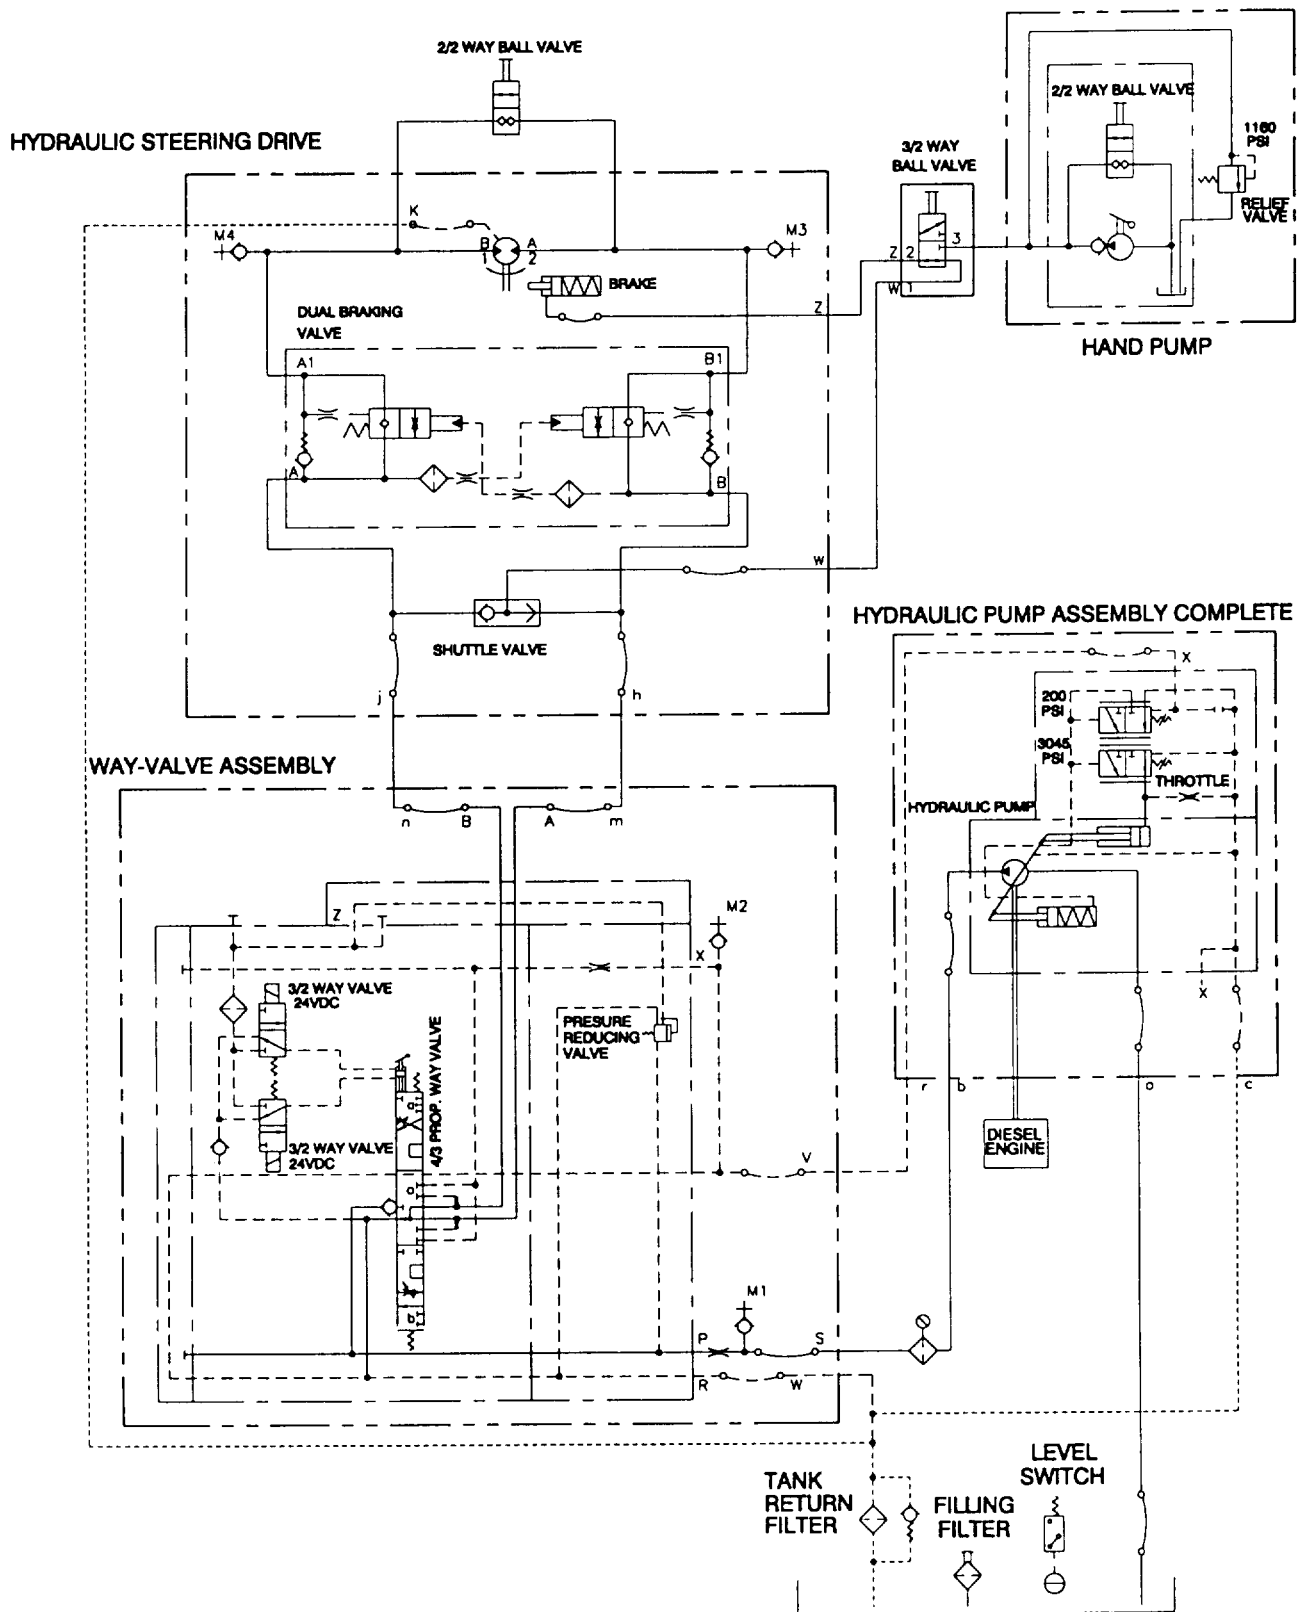

Figure 1-28. Hydraulic System Schematic.
**1-16 HYDRAULIC SYSTEM** (Figure 1-28)